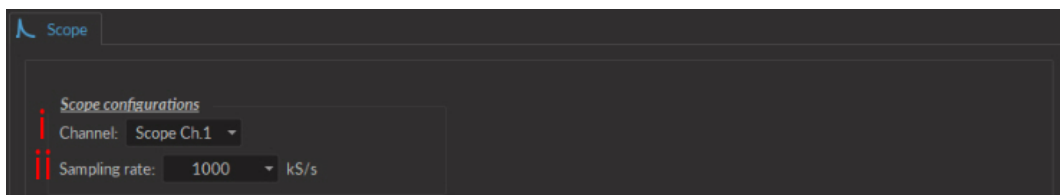

Figure 3.10: Scope
- f) The **Scope** mode allows the measurement of electrical signal using the driver (Fig. 3.10). The signal is received by the Input BNC of the chosen channel on the light source driver.